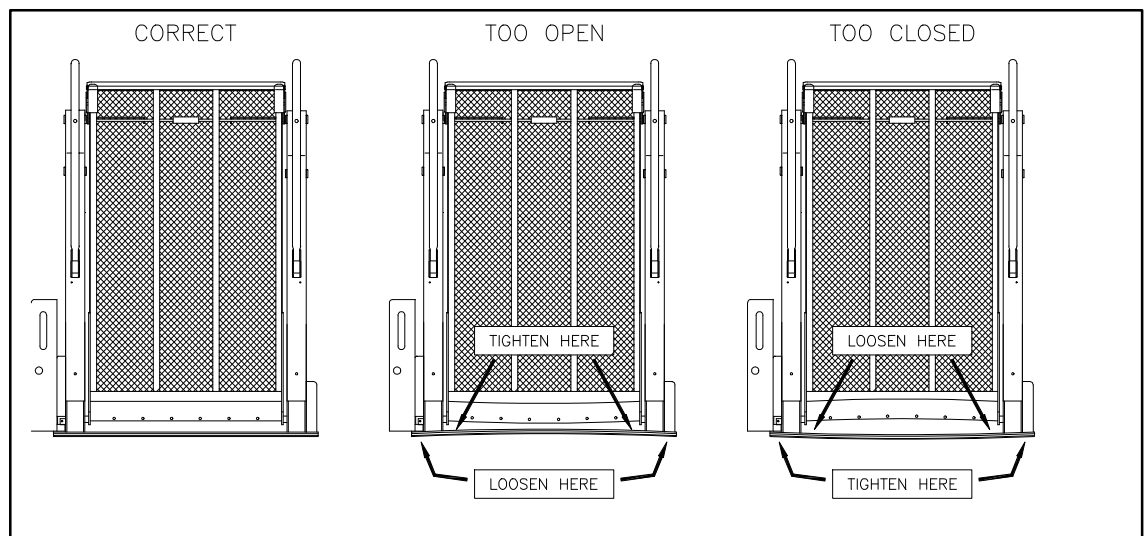

FIGURE 2-1: LIFT MOUNTING
- Refer to **Figure 2-1**. Improper fastening sequence or torquing of bolts may result in a warped or buckled baseplate and, therefore, cause lift to operate unevenly.